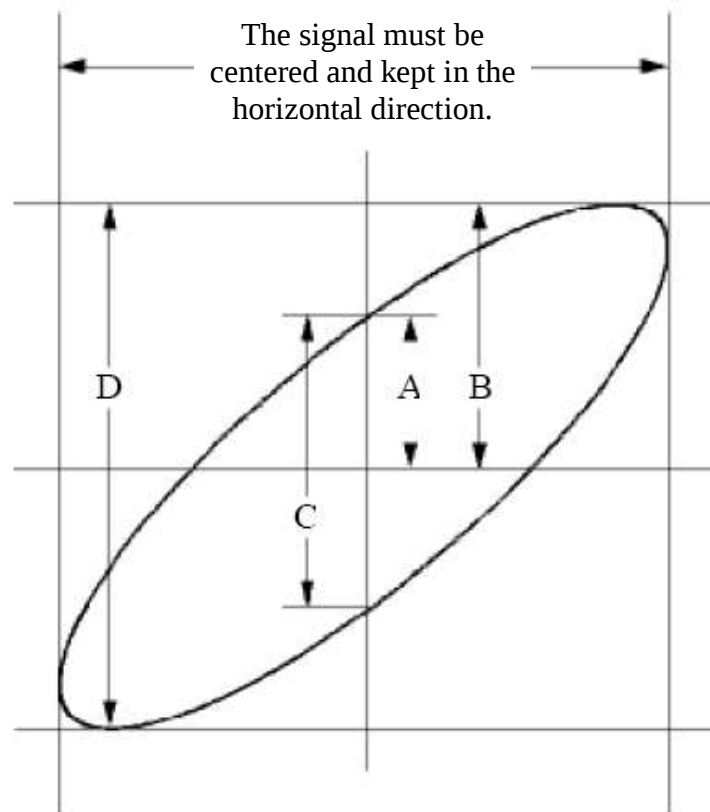

Figure 9-6 Lissajous Graph
- (4) Push the **Autoset** button, with the oscilloscope turning on the signals of the two channels and displaying them in the screen.
- (5) Push **CH1** button to select CH1, turn the **Vertical Scale** knob, and then push **CH2** button to select CH2, turn the **Vertical Scale** knob, making the amplitudes of two signals equal in the rough.
- (6) Push the **Display** button and recall the Display menu.
- (7) Select **XY Mode** in the bottom menu. Select **Enable** as **ON** in the right menu. The oscilloscope will display the input and terminal characteristics of the network in the Lissajous graph form.
- (8) Turn the **Vertical Scale** and **Vertical Position** knobs, optimizing the waveform.
- (9) With the elliptical oscillogram method adopted, observe and calculate the phase difference (see Figure 9-6).